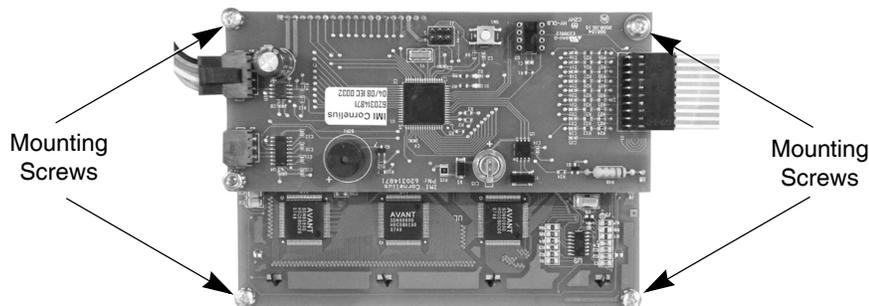

Figure 52. View of Display Board
The display board is located on the back of the control panel display. It is mounted to the panel with four (4) Phillips head screws, shown in Figure 52. To replace the board, perform the procedure in Table 59.